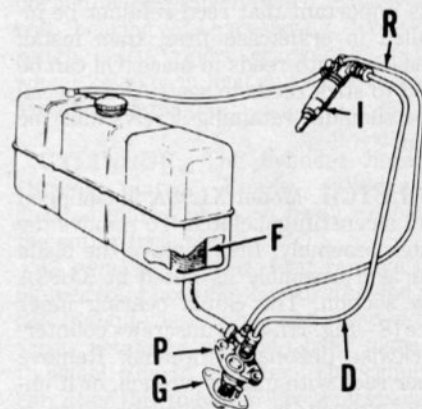
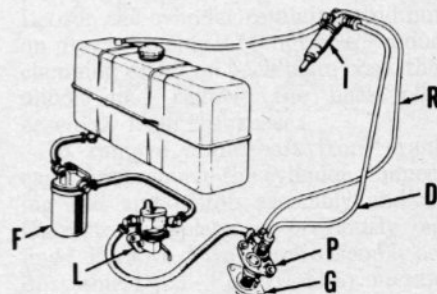
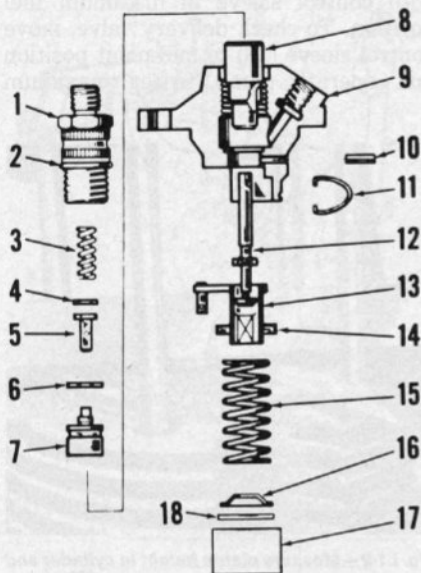
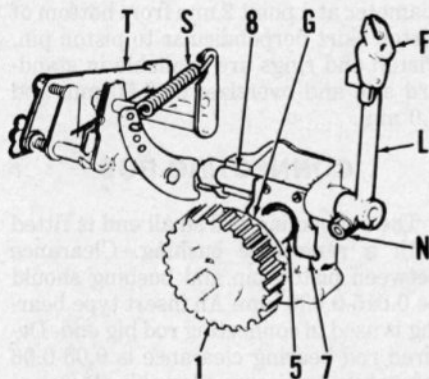

Fig. L1-3—Diagram of fuel system.
Fig. L1-4—Diagram of fuel system used on some models.
Fig. L1-5—View of injection pump.
Fig. L1-11—View of governor mechanism. Refer to text for operation.
FUEL FILTER. The fuel filter may be located inside the fuel tank as shown in Fig. L1-3 or a cartridge type filter as shown in Fig. L1-4 may be used. Renew fuel filter after every 300 hours of operation or sooner if required.
BLEED FUEL SYSTEM. If equipped with cartridge filter (F-Fig. L1-4), unscrew bleed screw and allow fuel to flow until air-free, then retighten screw.
On gravity flow fuel systems (Fig. L1-3), loosen fuel line fitting on injection pump and allow fuel to flow until air-free, then retighten fitting.
On models equipped with a fuel pump (L-Fig. L1-4), loosen fuel line fitting on injection pump and operate fuel pump primer lever until air-free fuel flows from fitting, then retighten fitting.
Injection pump timing is adjusted using shim gaskets (G-Fig. L1-3 and L1-4) between pump body and mounting surface on crankcase. To check injection pump timing, unscrew delivery line (D) fitting from delivery union (1-Fig. L1-5). Unscrew delivery union and remove spring (3), washer (4) and valve (5), then screw delivery union (1) into pump body. Move throttle control lever to full speed position. Rotate engine in normal direction (clockwise at flywheel end) so piston is on compression stroke.
Note fuel in delivery union will spill out of union. Stop engine rotation at moment fuel ceases to spill out of union. Timing dot (R—Fig. L1-6) on fan plate should align with injection timing dot (I) on fan shroud. Correct injection timing is 26° 20' to 28° 20' for Model 500 before serial number 1447084, Model 520 before serial 1448128 and Model 530 before serial number 1457466. Correct injection timing is 29° 20' to 31° 20' for models after the aforementioned serial numbers. To advance injection timing, remove shim gaskets (G—Fig. L1-3 and
Refer to Fig. L1-5 for view of injection pump. Disassembly and reassembly is evident after inspection of pump and referral to Fig. L1-5. Note that slot in barrel (8) must align with pin (10) and helix in plunger (12) must face pin (10).
(13—Fig. L1-5) pin with governor arm (F—Fig. L1-11). Tighten pump retaining screws to 29 N·m. Loosen clamp nut (N) then move throttle lever (T) to full throttle. Push governor lever (L) in until it stops thus moving injection pump control sleeve to maximum delivery. Tighten clamp nut (N).
All models are equipped with a fly-weight centrifugal type governor which is attached to the back of oil pump drive gear as shown in Fig. L1-11. The oil pump drive gear (1) is driven by the crankshaft and rotates governor fly-weight assembly (G). The flyweights are interlocked with sleeve (5) to move fork (7) and rotate attached shaft. As the
Governor components must move freely for proper governor operation. Governor spring (S—Fig. L1-11) free length should be 56.9-57.0 mm. At a spring length of 71.9-72.0 mm, spring tension should be 13.7-15.7 newtons.